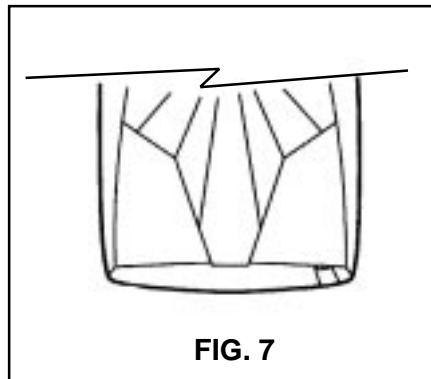

FIG. 7
5. Close riser covers over the main risers (**FIG. 7**).
7. Close the top flap protector by tucking the "tongue" underneath the flaps (FIG. 7).